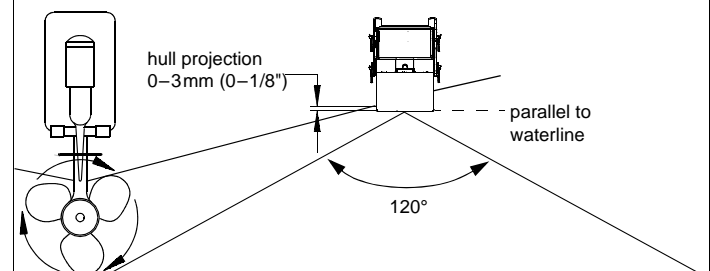
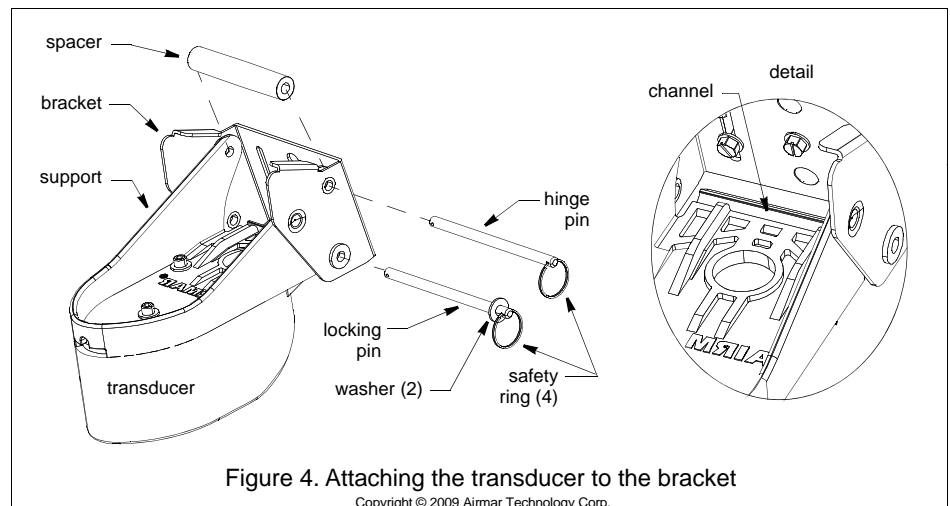

Figure 1. Mounting location on single drive boat
Figure 4. Attaching the transducer to the bracket
- Mounting on the side of the transom where the propeller blades are moving downward is preferred (see Figure 1).
3. Attach a safety ring to one end of each pin (see Figure 4).
1. At the selected mounting location, position the assembly so the transducer projects 3mm (1/8") below the bottom edge of the transom (see Figure 1). Be sure any shim(s) is in place. (You may want to tape the shim(s) to the bracket temporarily.) With the transducer in the operational position, mark the bottom corners of the bracket.
2. Remove the transducer assembly from the bracket by removing the locking pin and the hinge pin (see Figure 4). Hold the bracket with any shim(s) in place against the transom at the marked location. Draw an "X" at 12mm (1/2") from the top and the bottom of each slot (see Figure 6).
1. Apply marine sealant to the threads of four of the hex-washer-head screws to prevent water seepage into the transom. Being sure any shim(s) is in place, screw the bracket to the hull using a socket wrench (see Figure 4). *Do not tighten the screws at this time.*
5. Using the vertical adjustment space in the bracket slots, slide the assembly up or down until the bottom inside corner of the transducer projections 0–3mm (0–1/8") below the bottom of the hull (see Figure 1). When you are satisfied with the position of the transducer, tighten the four bracket screws. For clear access to the screws, remove the transducer assembly from the bracket (see Figure 4). *When reattaching, be sure to include the spacer.*
- b. Move the transducer deeper into the water in increments of 3mm (1/8") (see Figure 1).
For clear access to the screw, remove the transducer assembly from the bracket (see Figure 4). *When reattaching the transducer, be sure to include the spacer.*